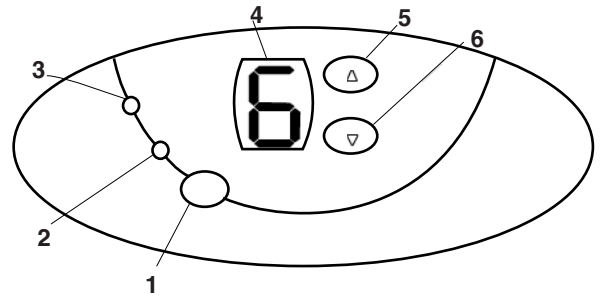

Fig. 8. Column Selector displays and manual selectors.
1. The Column Selector control panel is shown in Figure 8. Display and operations are:
- a) Local-Remote button (1)
- b) Remote indicator light (2)
- c) Local indicator light (3)
- d) Valve/column position [LED] (4)
- e) Manual forward position selector button (5)
- f) Manual reverse position selector button (6)